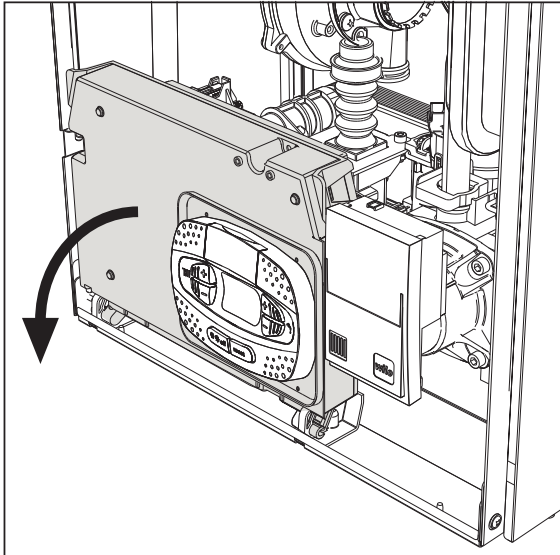
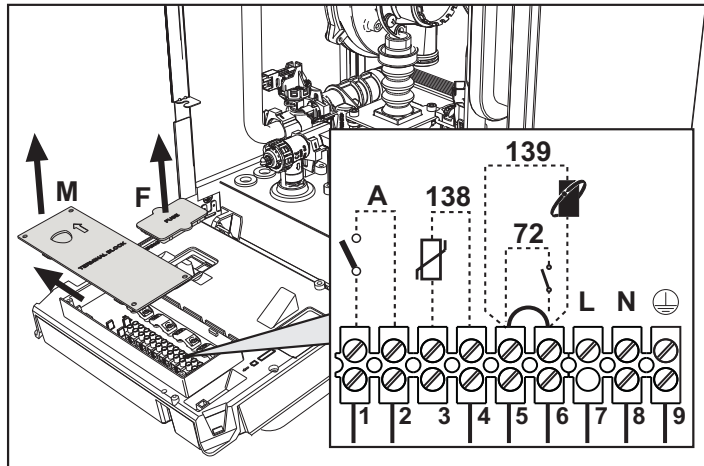

fig. 19
fig. 20
Remove the front panel ( \*\*\* 'Opening the front panel' on page 185 \*\*\* ) to access the terminal block (M) and fuse (F) by proceeding as follows (fig. 19 and fig. 20). **The terminals indicated in fig. 20 must be with voltage-free contacts (not 230V).** The arrangement of the terminals for the various connections is also given in the wiring diagram in fig. 62.